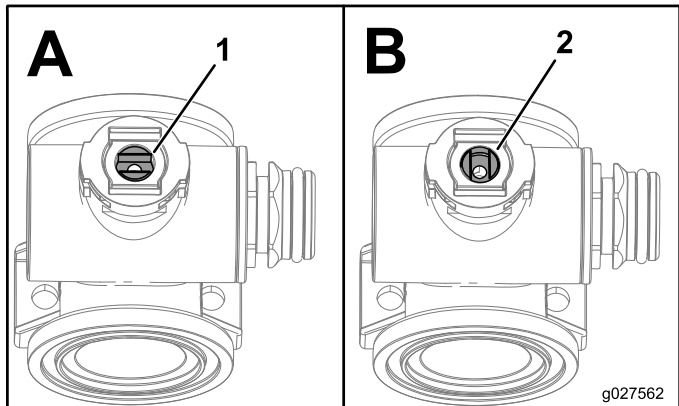

**Figure 123**
2. Remove the 2 end-cap-fitting assemblies from each end of the manifold body (Figure 123 and Figure 124).
- Remove the stem retainer from the slots in the stem port in the manifold (Figure 123 and Figure 124).
- Remove the stem retainer and valve stem seat from the manifold (Figure 123 and Figure 124).
- Reach into the manifold body and remove the valve-stem assembly (Figure 123 and Figure 124).
- Check the condition of the outlet fitting O-rings (section valve manifold only), end cap O-rings, back seating O-rings, and ball seat for damage or wear (Figure 123 and Figure 124).
- Apply silicone grease to the valve stem and insert it into the valve stem seat (Figure 123 and Figure 124).
- Install the valve stem and seat into the manifold and secure the stem and seat with the stem retainer (Figure 123 and Figure 124).
- Ensure that the back seating O-ring and the ball seat are aligned and seated into the end-cap fitting (Figure 123 and Figure 124).
- Install the end-cap fitting assembly onto the manifold body until the flange of the end-cap fitting touches the manifold body (Figure 123 and Figure 124), then turn the end-cap fitting an additional 1/8 to 1/4 turn.